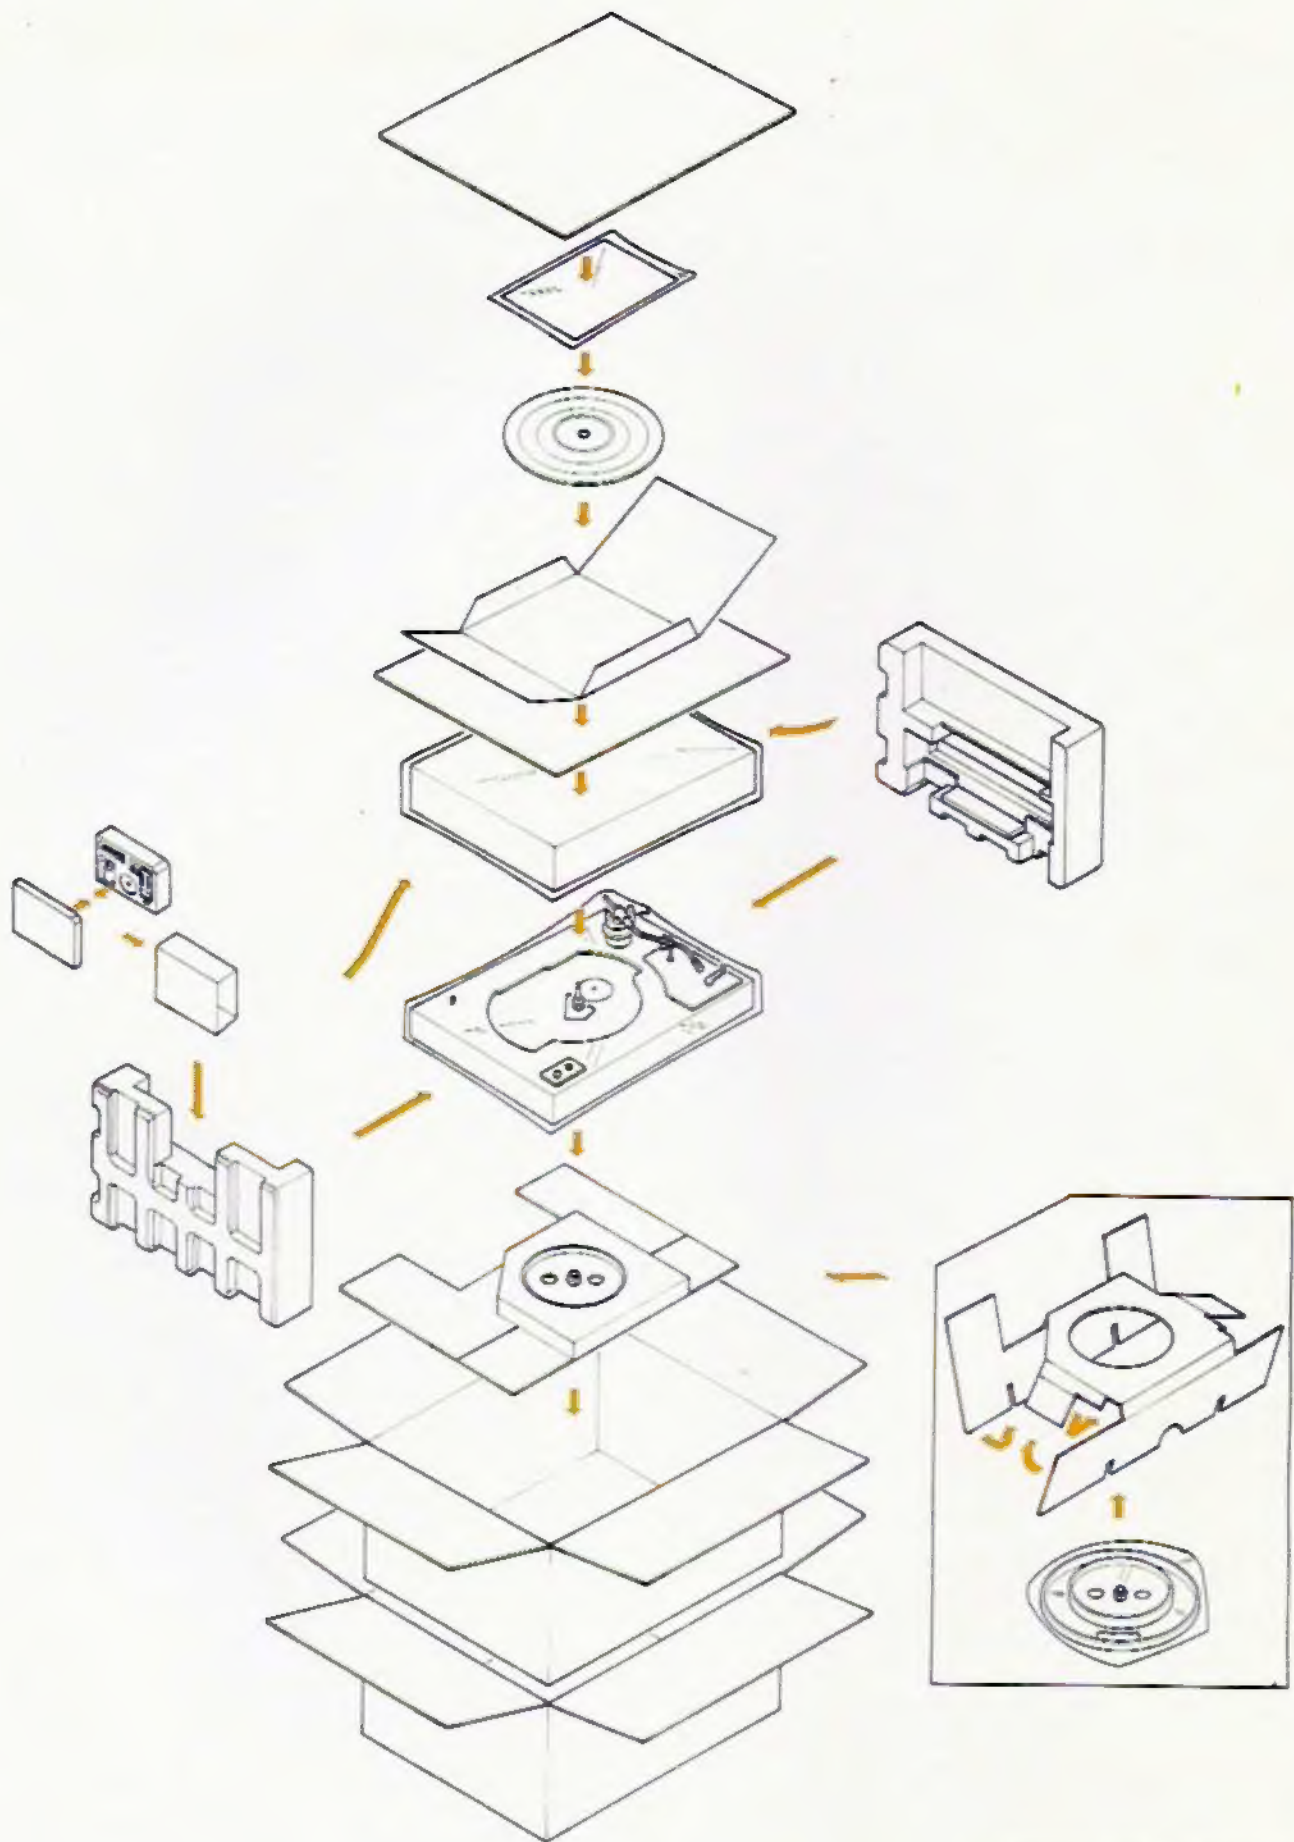

Figure 6. Packing Instructions
- a. Pack the unit carefully, using the original material as shown in Figure 6.